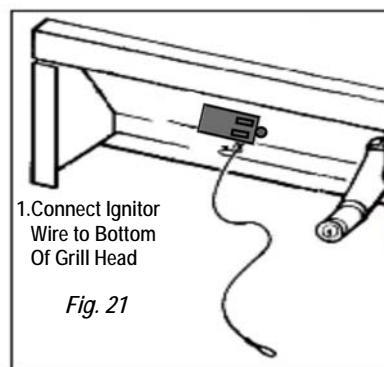
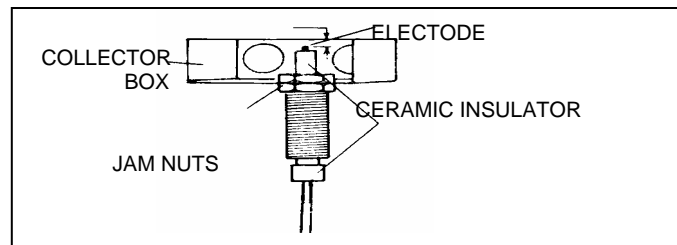

Fig. 21
Figure 37 Proper electrode adjustment
C. Ignitor Wire Connection (Fig. 21)
If ignitor does not produce a spark with a fresh battery, make sure that ignitor wire is plugged into back of ignitor as shown in Figure 21 on page 16 and also wire in securely plugged into ignitor box in figure 37 on page 20. NOTE: Replace battery when sparking sound either stops or noticeably slows down or every six months, whichever occurs first. If you are not going to use your grill for more than 30 days, remove the battery. Reinstall when you are ready to use your grill again.
Check the new part for proper spacing of the electrode end before installing. Since the feed-through fixture is threaded its full length, loosening and tightening two jam nuts will move the electrode tip closer or farther away from the collector box surface. For best spark, set at 1/8" (see Fig. 37).